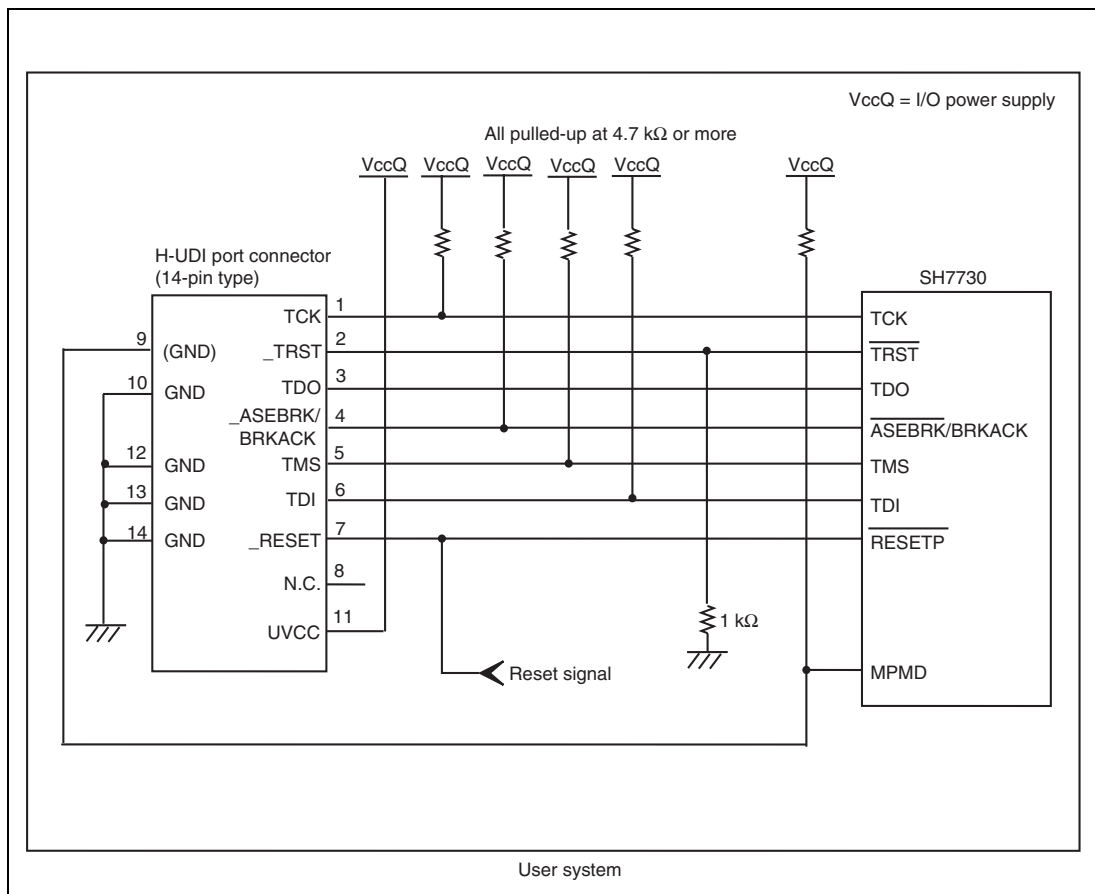

Figure 1.6 Recommended Circuit for Connection between the H-UDI Port Connector and MPU when the Emulator is in Use (14-Pin Type)
Figure 1.6 shows a recommended circuit for connection between the H-UDI and AUD port connectors (14 pins) and the MPU when the emulator is in use.
- (1) When the emulator is used: MPMD = 0
- (2) When the emulator is not used: MPMD = 1Figure 1.6 shows an example of circuits that allow the MPMD pin to be GND (0) whenever the emulator is connected by using the user system interface cable. When the MPMD pin is changed by switches, etc., ground pin 9. Do not connect this pin to the MPMD pin.
6. The resistance values shown in figure 1.6 are preliminary.
When the circuit is connected as shown in figure 1.6, the switches of the emulator are set as SW2 = 1 and SW3 = 1. For details, refer to section 3.8, Setting the DIP Switches, in the SuperH™ Family E10A-USB Emulator User's Manual.